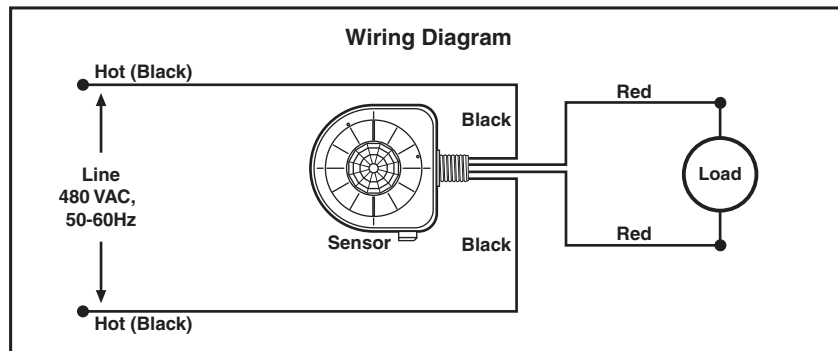
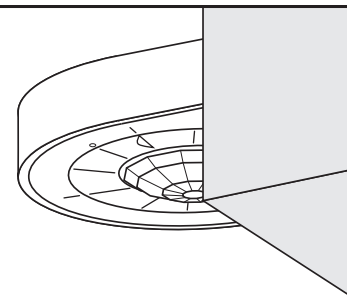

Figure 1A
Figure 1B
NOTE: The OSFHU-x4W is supplied with two lens trim rings. The 360 degree High Bay lens (white color trim ring) is installed at the factory with the Low Bay lens (blue color trim ring) in the carton. Choose the correct lens for your fixture height location and add the black aisle mask if desiring to block detection outside of the aisle. See below for changing lens trim ring. The OSFHU-x4W Sensor mounts in a 1/2" knock out hole on the end of a luminaire or an electrical box. The Sensor's field-of-view may be partially obstructed by the luminaire housing (**refer to Figure 1A**). At higher mounting heights, the outer beams are not used. As long as the bottom of the sensor is mounted within 1" from the bottom of the luminaire, the field-of-view will not be affected (**refer to Figure 1B**).
2. Punch out the keyed hole of the Adapter half body to be mounted on the luminaire or electrical box (**refer to Figure 1B**).